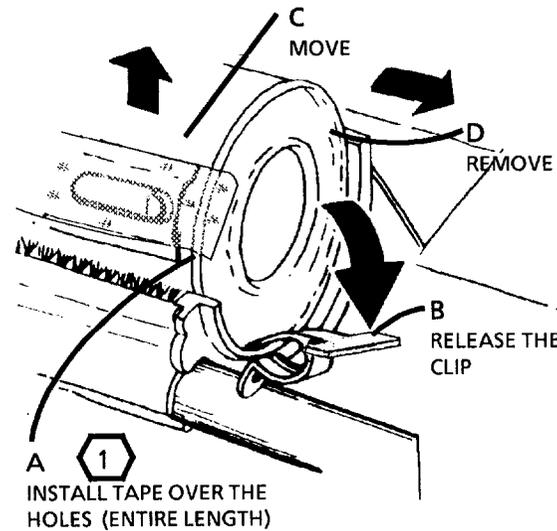

Figure 3. Tape and Remove Dry Ink Plus Cartridge
6. (FIGURE 3): TAPE AND REMOVE THE DRY INK PLUS CARTRIDGE.